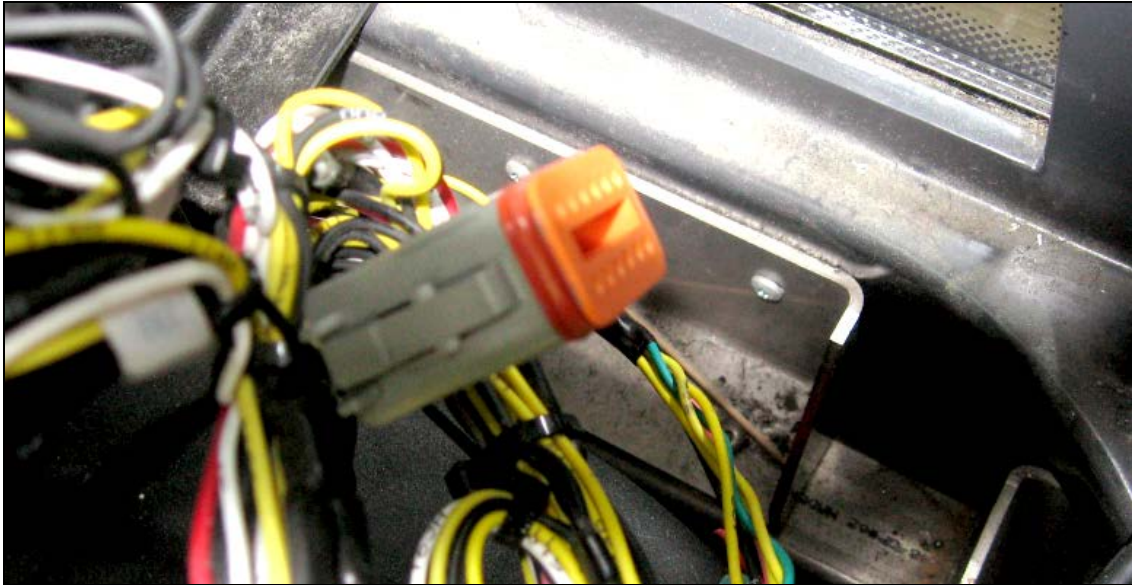

Fig.7 Vehicle power supply.
- **Connector A97A** goes to the vehicle power supply located near the CANtrak module at the back of the dashboard (Fig.7).